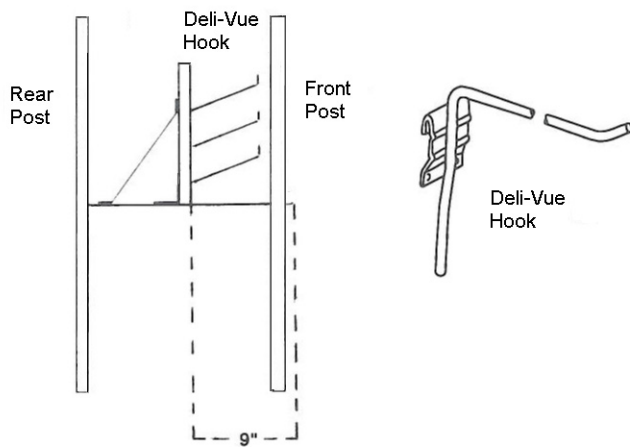

Figure 25
2. Locate Half Door Deli 9" in from front of standard shelf (27"). Refer to Figure 25 .